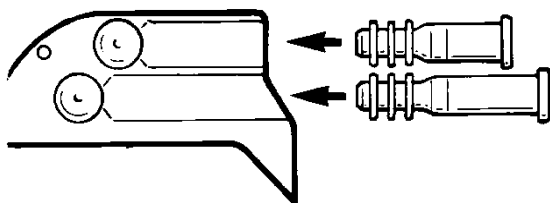

Figure 1. *Insert the short and long sizing sleeves into the pulse generator connector.*
2. Insert the short sizing sleeve (clear) into the top pulse generator connector port. Insert the long sizing sleeve (white opaque) into the bottom connector port (see Figure 1). If necessary, use sterile water as an insertion lubricant.